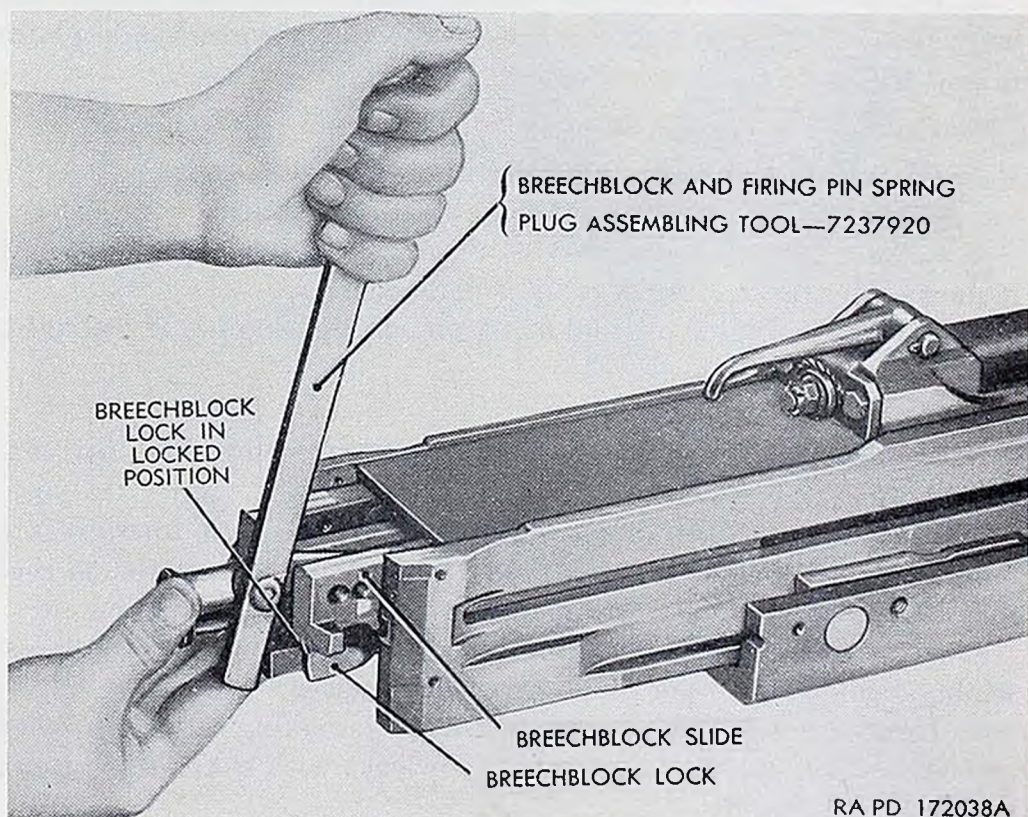

Figure 86. Positioning the breechblock and firing pin spring plug assembling tool 7237920 for installation of breechblock.
a. Slide the breechblock partly into the receiver. Hold breechblock lock in the unlocked position under the bolt and manipulate the breechblock and firing pin spring plug assembling tool 7237920 (fig. 44) so that the lug on the arm engages in third hole from rear of the breechblock slide and the body of the tool pivots against the rear lower face of the bolt assembly, as shown in figure 86.